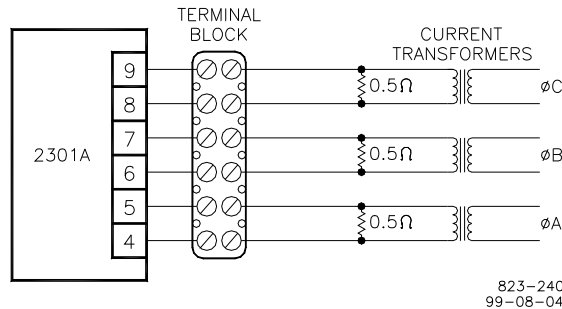

Figure 3-2. Temporary Wiring for Transformer Phase Correction
**HIGH VOLTAGE**—Never disconnect any wire attached to load sensor terminals 4 through 9 when the prime mover is running unless temporary 1  $\Omega$ , 5 W resistors are installed as shown in Figure 3-2, and all load is removed. The current transformers can develop dangerously high voltages when open circuited while the prime mover is running.
The Phase Correction Procedure requires that the prime mover be shut down many times to disconnect the current transformers. For convenience, a temporary method of connecting the current transformers shown in Figure 3-2 is recommended. Connecting a  $0.5\ \Omega$ , 20 W burden resistor across each current transformer allows the current transformers to be disconnected from the terminal strip with the prime mover running, after removing all load.
**HIGH VOLTAGE—The current transformers can develop dangerously high voltages. Do not disconnect a current transformer while the prime mover is running unless temporary  $0.5\ \Omega$ , 20 W resistors are installed as shown in Figure 3-2, and all load is removed.**
If the temporary burden resistors described above and shown in Figure 3-2 are not used, the prime mover **MUST** be shut down in addition to removing the load in the following procedure.